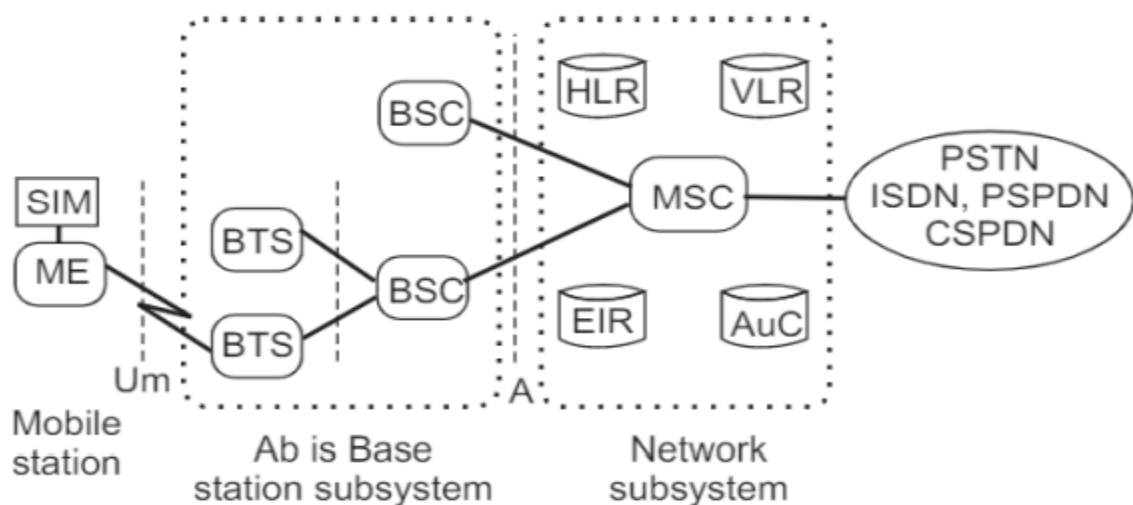

Fig 5.11 GSM architecture.
- The system architecture of GSM is shown in the Fig 5.11. It consists of three major subsystems that interact with each other and with the subscribers through specified network interfaces. The three subsystems are as follows:
- Mobile station (MS)